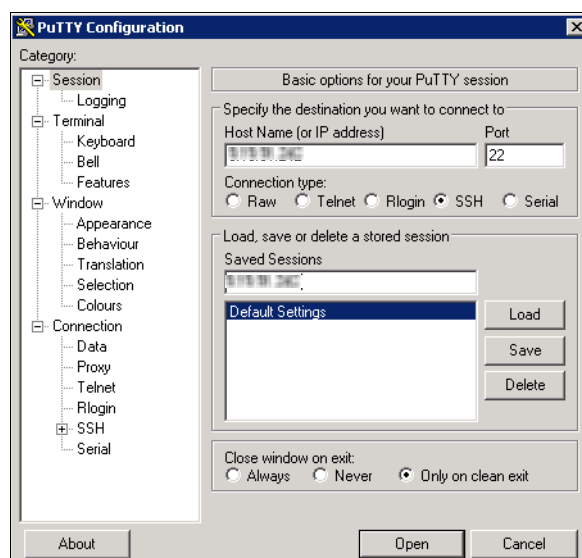

Figure 6-93 Configure PuTTY (step 1 of 3)
1. Type the IP address or name of the FlashSystem 900. The name can be used if the name resolution, Domain Name System (DNS), is configured. Ensure that **SSH** is selected and that port 22 is used for the connection, as shown in Figure 6-93.